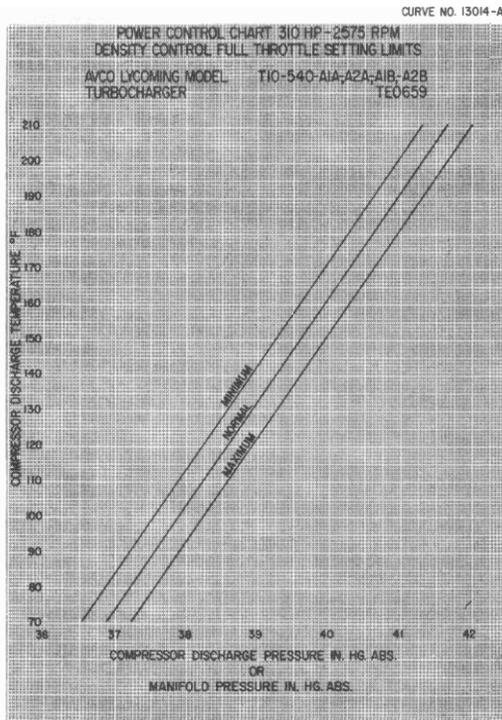

Figure 6. TIO-540-A1A, -A1B, -A2A and -A2B Induction Air Temperature vs Manifold Pressure
4. Check Induction Air Temperature with Manifold Pressure: Note both engine manifold pressure and compressor discharge temperature at full throttle and compare with the chart shown in figure 6 for